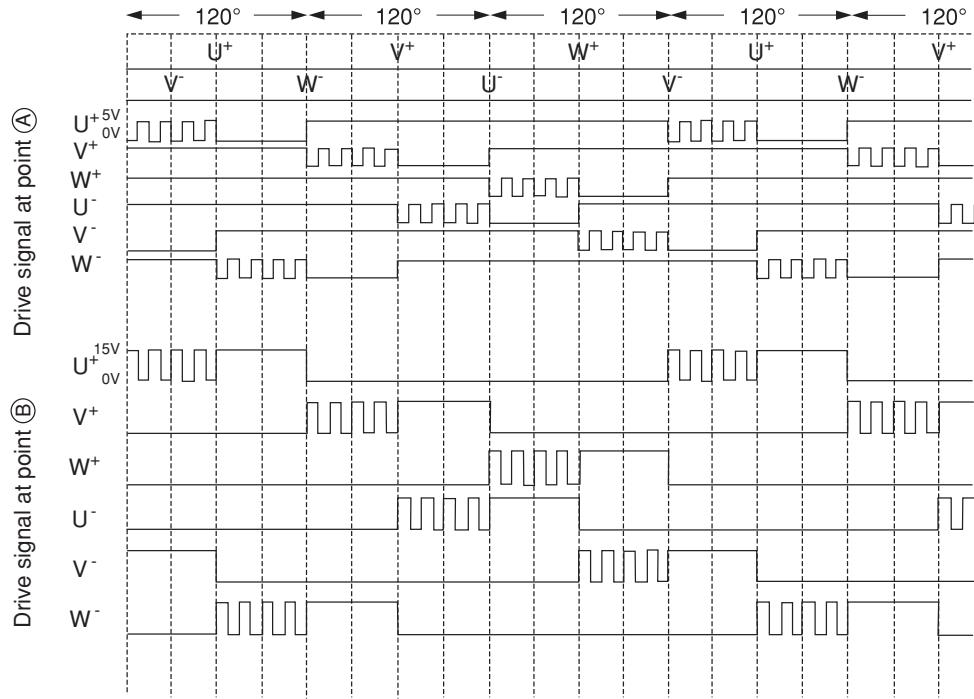

Fig. 7-2
- In low speed rotation mode (PWM range), as shown in Fig. 7-2, 0-5V chopper signal is output from microcomputer for each phase. Signal output from microcomputer is output to IC1 and is inverted by active LO to become 0-15V chopper signal; it is then drive the transistor of each phase.